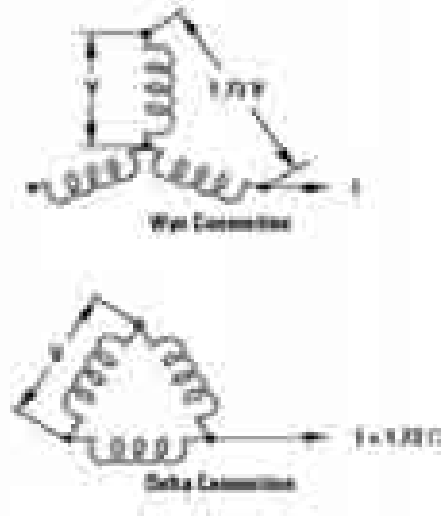

Figure 16
Some applications demand a wye connection rather than a delta connection and vice-versa. For example, the delta connection is sometimes used to obtain single-phase 120-240 volts, 3-wire, along with three-phase, 3-wire on the same generator. **Figure 16** shows an example of a wye and a delta connection.
In a wye connection, the terminal voltage is 1.73 times the terminal-to-neutral voltage (represented by the letter “V” in **Figure 16**). In the same generator, a delta connection would have the same terminal-to-neutral voltage as the wye connection for its terminal voltage. However, the delta line current (I) would now be 1.73 times the wye line current (I).